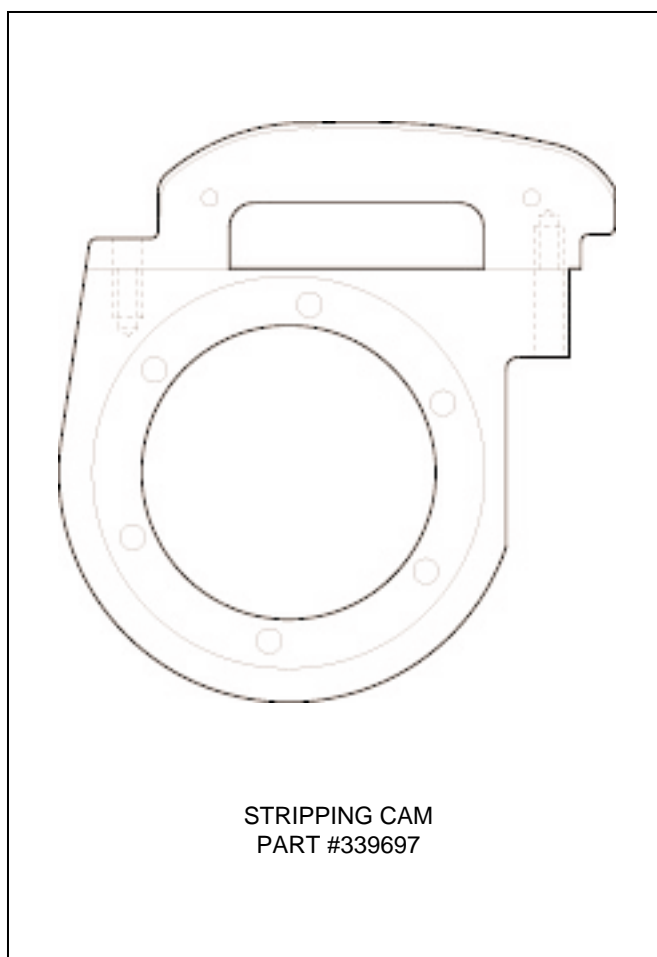

Figure 4.15 STRIPPING CAM INSERT
- 4.1.30 Install stripping cam insert **part # 339697** (see figure 4.15).